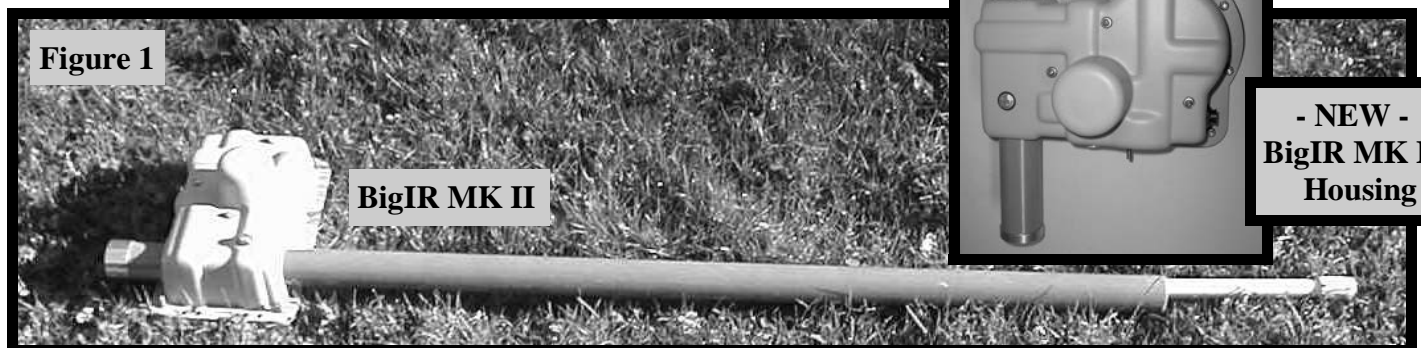

Figure 1
- The base assembly can now be modified (**Figure 1**).